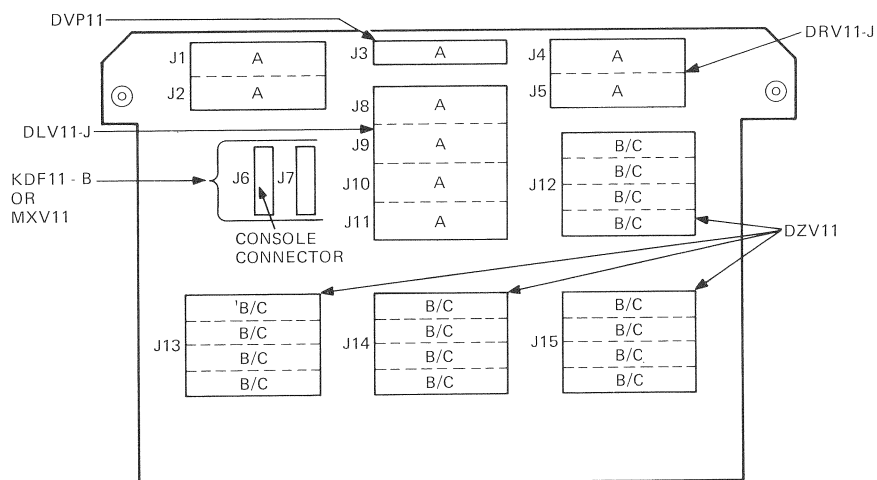

Figure B-9 H349 I/O Distribution Panel
B.7.6.1 Insert Panels and Filter Connectors – The H349 I/O distribution panel has 10 cutouts that provide a place to install up to 15 insert panels (Figure B-9). Mounting locations J6 and J7 accommodate the two KDF11-BA or KDF11-BF serial line connectors (one assembly).